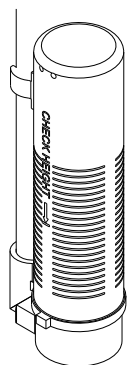

Figure 1 Residential Air Check Valve
9. Place approximately 1 inch (25 mm) of water above the grid plate. If a grid is not utilized, fill to the top of the air check (Figure 1) in the salt tank. Do not add salt to the brine tank at this time.